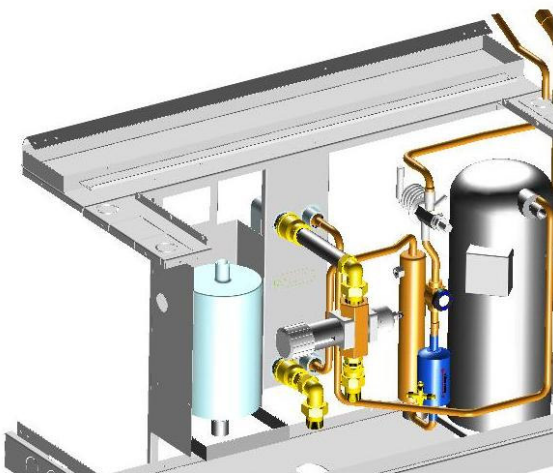

Fig.1
- **Compressors:** Only primary brand scroll compressors are installed in INNOV@ units (fig.1). The scroll compressor represents the best solution in terms of efficiency and reliability for CCU units. The internal compression ratio is very close to the typical operating condition of CCU applications, bearing the maximum in terms of COP. The perfectly balanced pressures during start-up phases are a great advantage for the electrical motor and its reliability, most of all in this field, where start-ups are very frequent.